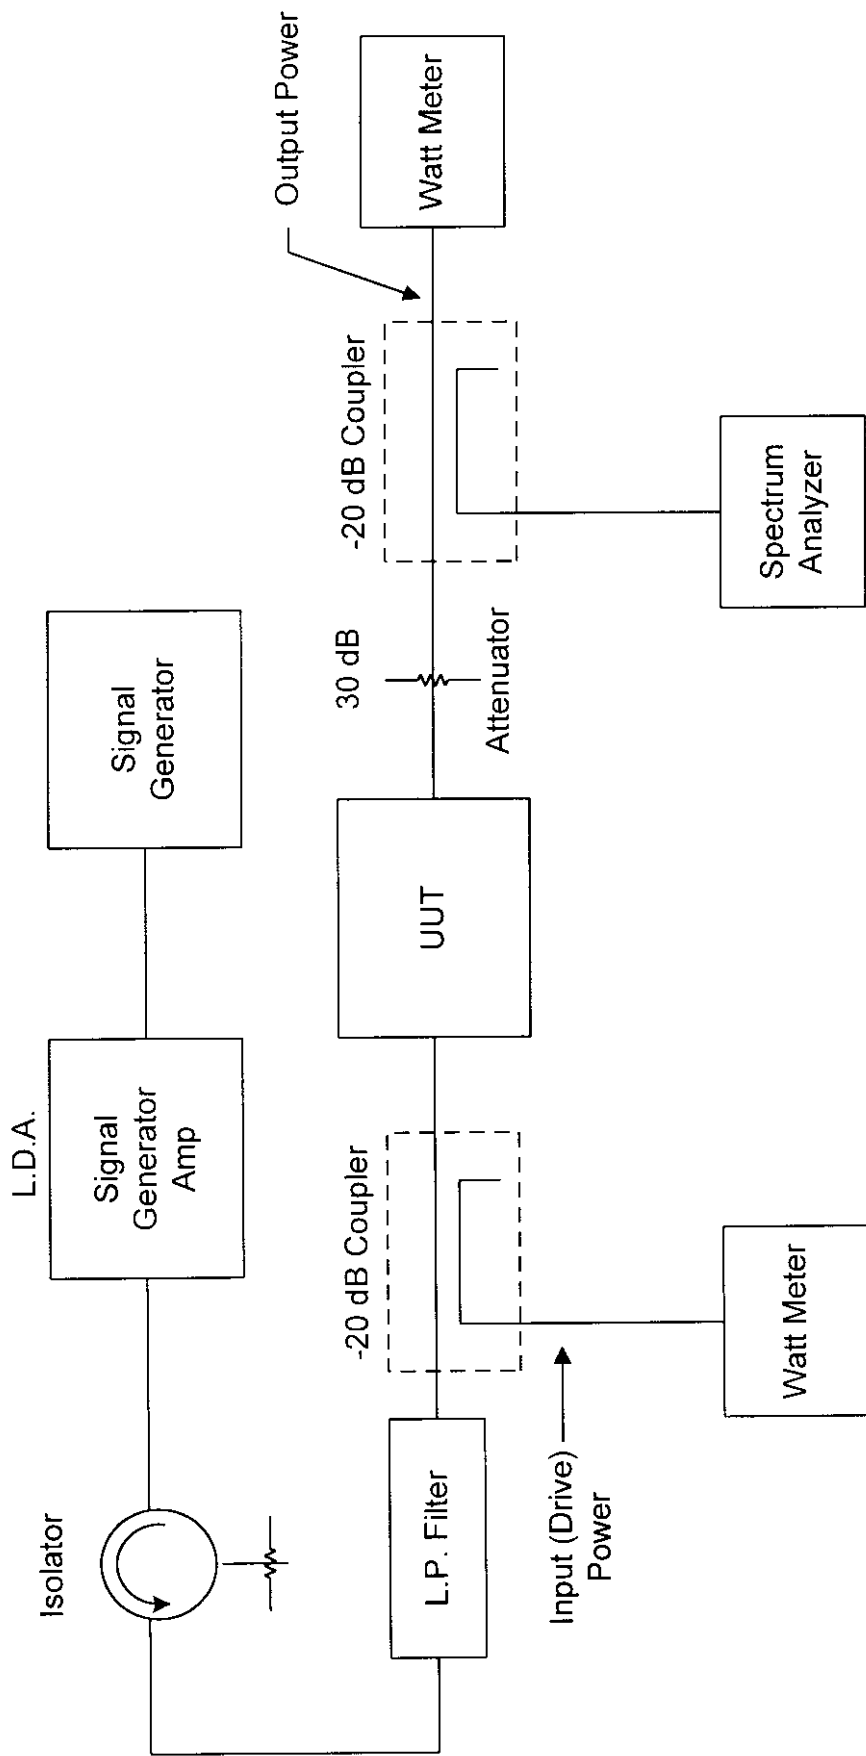

Figure 5-1. Amplifier Test Setup Diagram
Performance testing should be conducted every 12 months to ensure that the amplifier system meets the operational specifications listed in table 1-2. Also verify system performance after any amplifier is replaced in the field. The test equipment required to perform the testing is listed in table 5-2, and the test setup is shown in figure 5-1.
1. Connect test equipment as shown in figure 5-1.